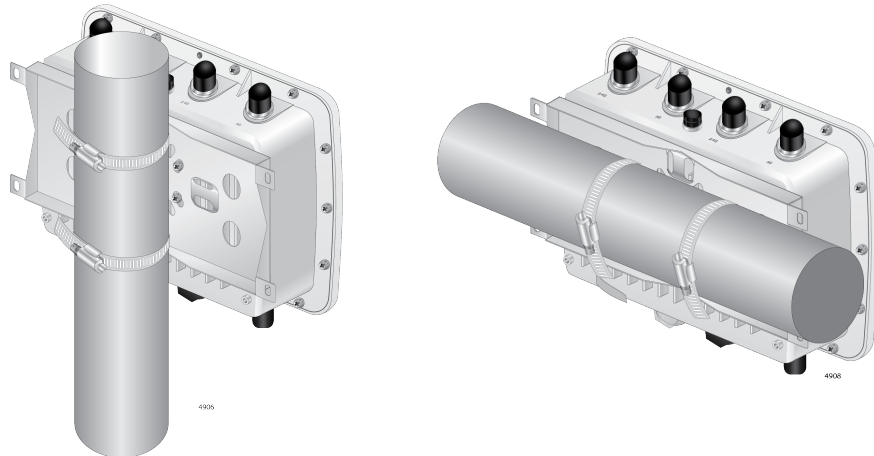

Figure 27. Pole Orientations with the Access Point
You can install the access point on a pole that stands vertically or runs horizontally as long as the access point's front panel faces down. See Figure 27.
Figure 27 show the pole orientations using the pole straps and mounting base as examples. You can also install the access point on a vertical or horizontal pole using the U-bolts and pole-mount bracket.
- ☐ The access point can be installed on a pole that stands vertically or runs horizontally using either the U-bolts and pole-mount bracket or the pole straps and mounting base. See Figure 27 on page 57.